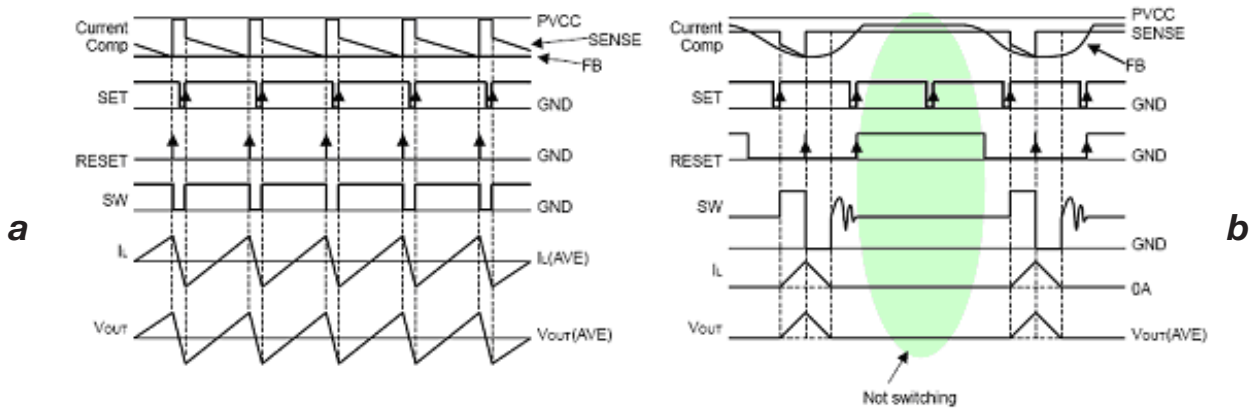

Figure 3. In contrast to normal PWM timing (a), with SLLM control (b), switching does not occur during the portion of PWM when a SW signal is sent.
To improve the efficiency of products in the previously ignored low-power operating regime, ROHM Semiconductor engineers have developed a technique called Simple Light Load Mode Control. Figure 3 shows the comparison of SLLM to traditional PWM control. Under higher load levels, normal current mode PWM control is utilized. When a light load is detected, the switching pulse (SW) turns OFF the normal PWM control loop allowing linear operation without an excessive voltage drop or deterioration in transient response during the switching from light load to heavy load or vice versa.